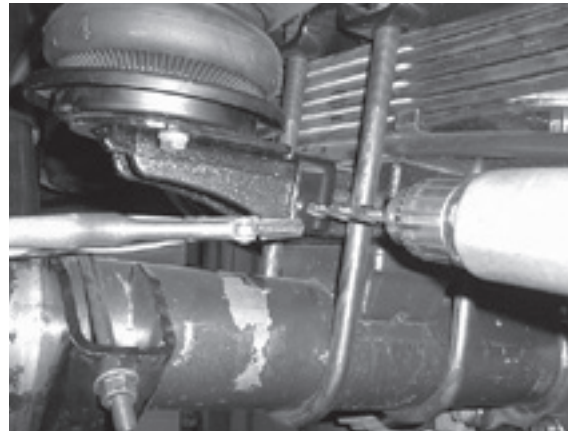

fig. 15
- Clamp the lower bracket to the strike plate with c-clamps or vice grips. Drill a 3/8" hole through the strike plate using the existing holes in the lower bracket as a template (Fig. 15).